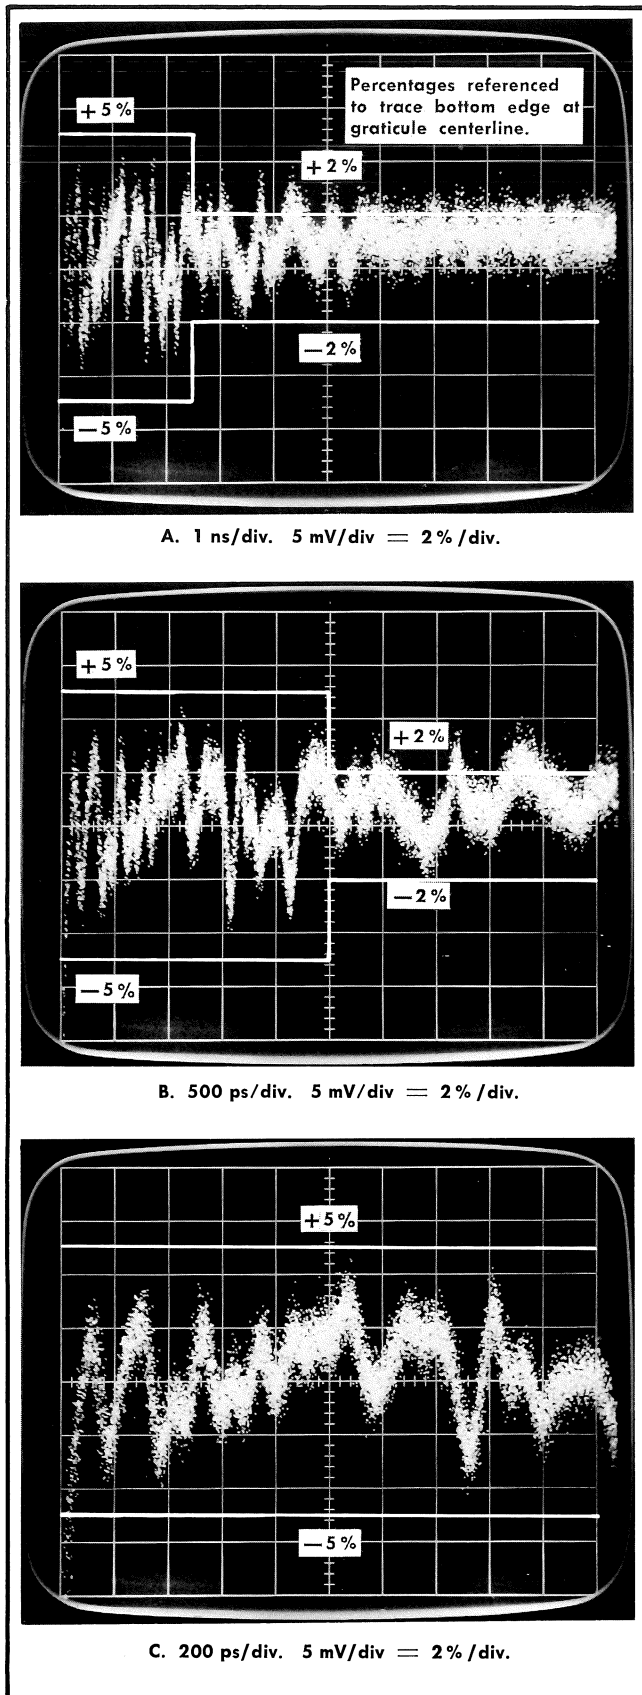

Fig. 5. Check of Type S-2 pulse flatness deviation.
f. Check that the pulse will not deviate from flat more than +5% to -5% for the first 2.5 ns after the pulse reaches 50% amplitude, nor deviate more than +2% to -2% (total 4%) thereafter. Change the sweep rates as listed under the three parts of Fig. 5 and check the deviation as shown.